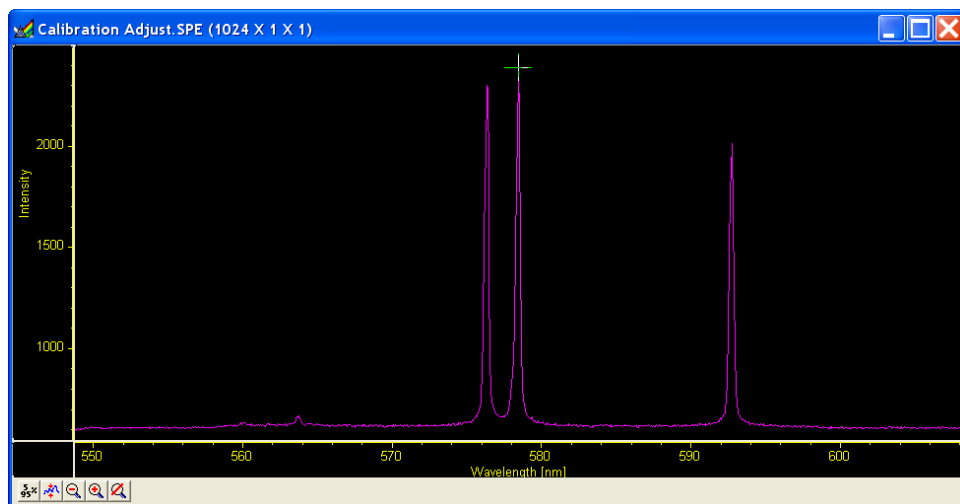

Figure 67. Calibration Adjust Spectrum
4. Figure 67 illustrates a typical Adjust data acquisition. The reference peak should appear near the center of the display and the cursor should be near or on the highest point of the peak.